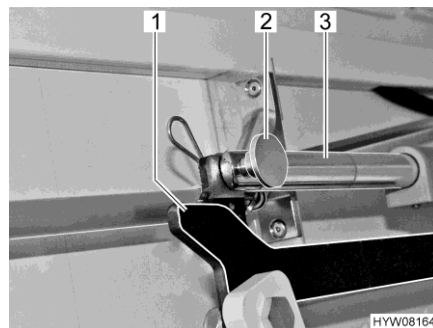

Fig. 111 Drive (pull-down bed)
- Remove the connection (securing splint and pin) (Fig. 111,2) between push rod (Fig. 111,3) and lever (Fig. 111,1).
- Grip it from the bottom, between the side wall and the pull-down bed lever, and undo the connection (securing splint and pins) (Fig. 111,2) between the push rod (Fig. 111,3) and the lever (Fig. 111,1).